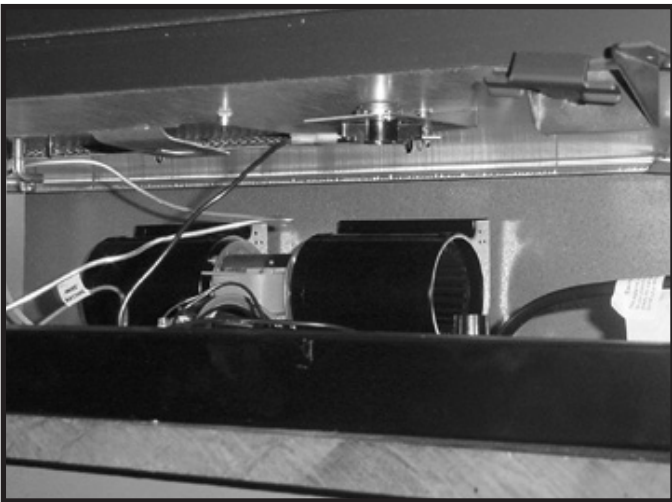

Figure 4 Positioning Fan
4. Rotate the fan so the back (with the foam strips) is flush and centered against the back of the appliance's outer shell. See Figure 4.